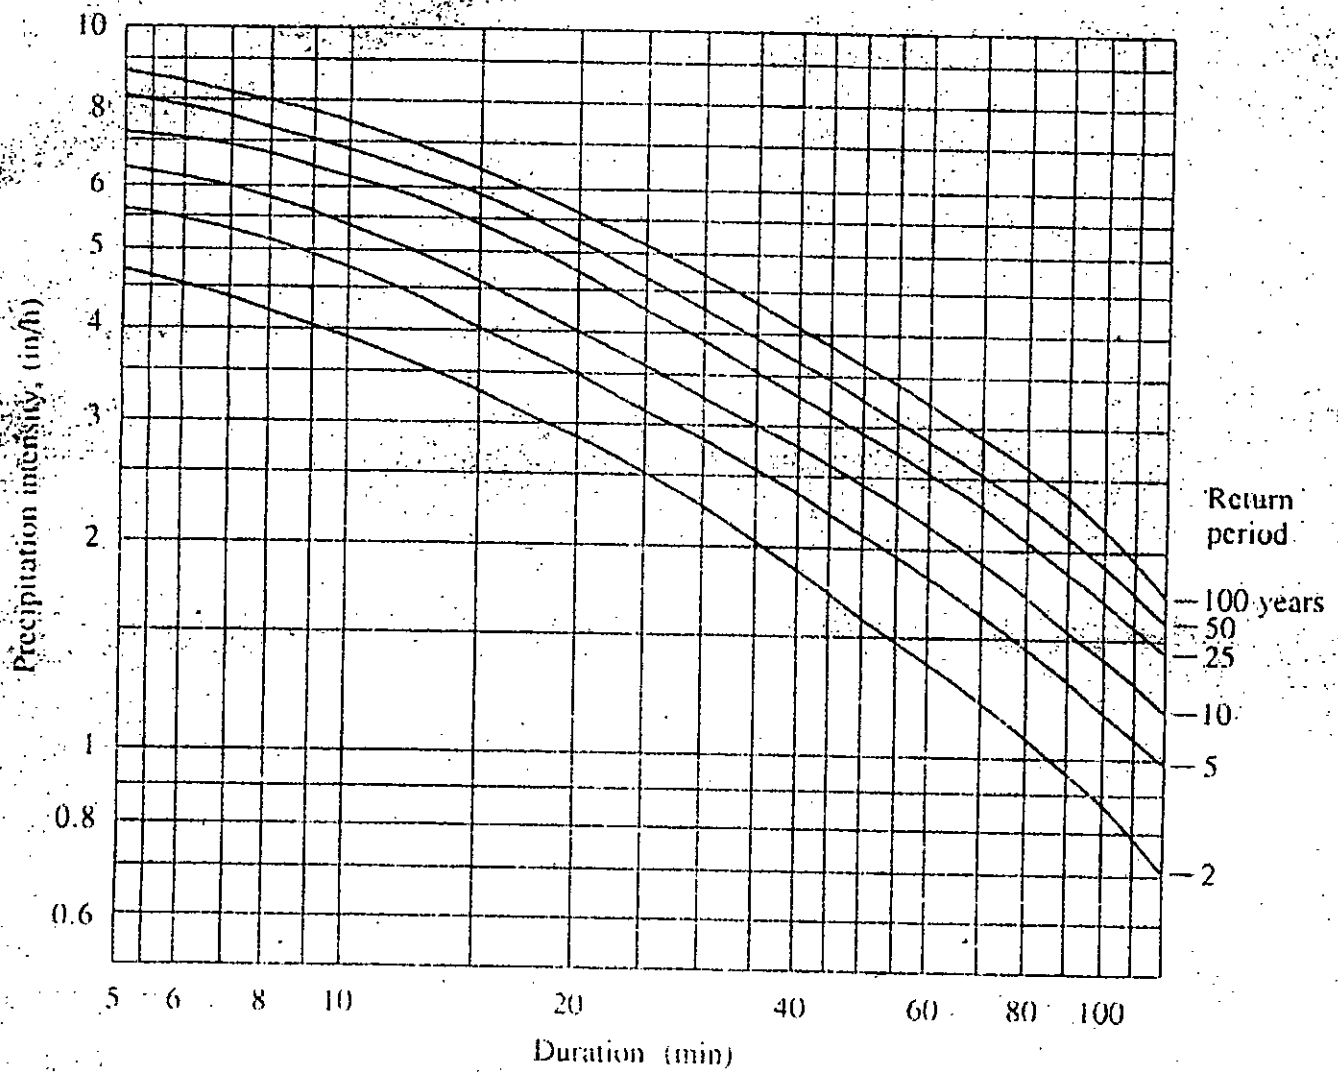

Fig. 1 : Intensity - Duration - Frequency (IDF) curves
- (c) Calculate the precipitable water in a air column of 2 km above 10 m² of ground surface. Assume linear variation of air density and specific humidity in the column. The surface pressure is the standard air pressure and the surface air temperature is 25°C. The relative humidity values at surface and 2 km elevations are 70% and 90% respectively. Assume, $\alpha = 6.5$ °C/km. (15)
2. (a) Define (i) Marshes, and (ii) Percolation. (5)
- (b) The design precipitation intensity for a storm with a T-year return period with slope of 0.007 and maximum length of travel of water of 1500 m for the catchment is 2.5 in/hr. Estimate the design return period (T). Also estimate the design precipitation volume (m³) and design peak discharge (m³/s) using Rational method for the catchment. The area of the catchment is 3 km² and runoff coefficient is 0.8. Use the IDF curves (Fig. 1) and Kirpich formula for your estimation. (15)
- (c) In a 120-min storm, the following intensities of rainfall were observed in successive 20-min intervals, 3.3, 0.6, 3.6, 9.0, 6.6 and 0.9 cm/hr. Assume ϕ -index value to be 1.0 cm/hr, compute: (i) total volume of runoff, (ii) total volume of infiltration, (iii) duration of rainfall excess, and (iv) runoff coefficient. The catchment area is 3 km². (15)
3. (a) Draw the groundwater table positions of various streams for dry and wet seasons and explain in brief. (5)
- (b) The ordinates of a storm hydrograph of a river draining a catchment area of 165 km² due to a 4-h rainfall are given below. Derive the ordinates of a 4-h unit hydrograph. (15)